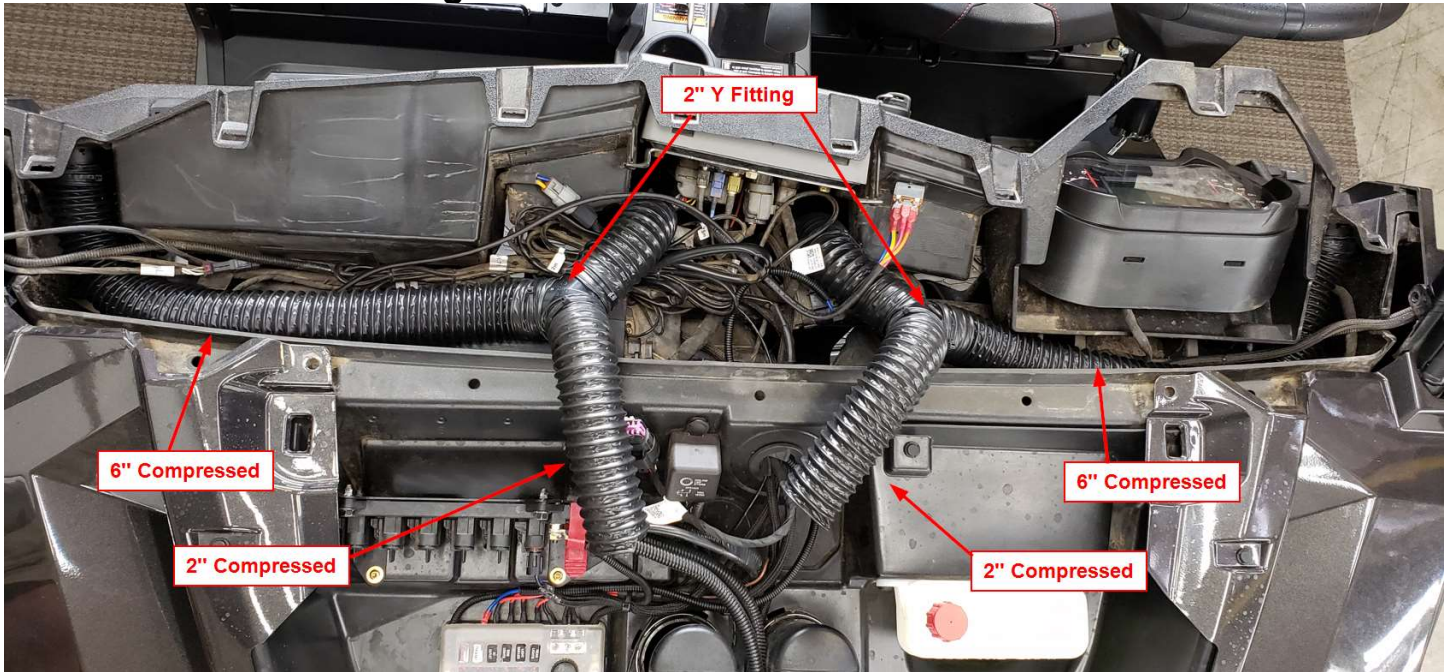
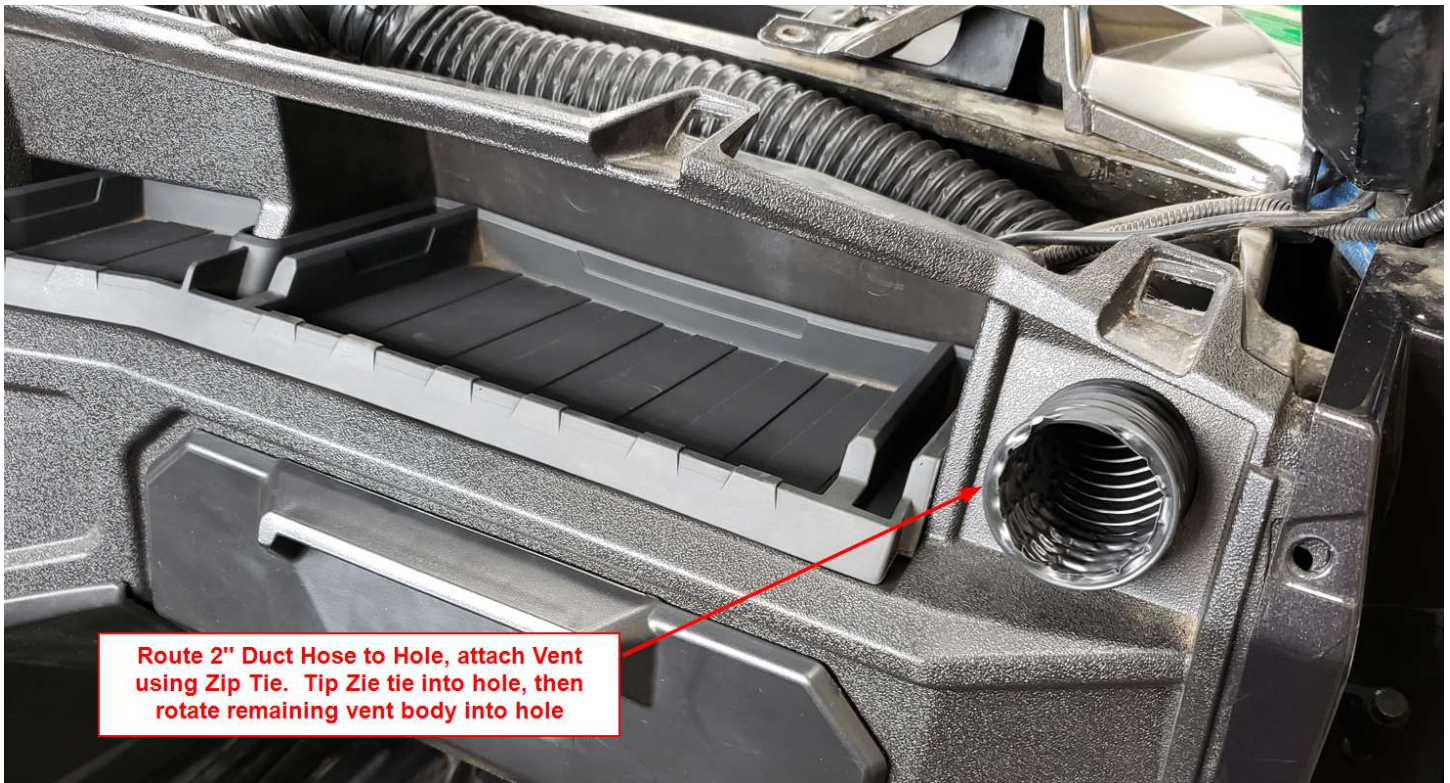

Figure 34
Figure 35
- b. Connect the 2" Duct Hoses as shown working from back to front and from the heater unit up, use a zip tie at each connection to ensure they do not slip off the different fittings. See Figure 34, Figure 35, Figure 36, Figure 37.